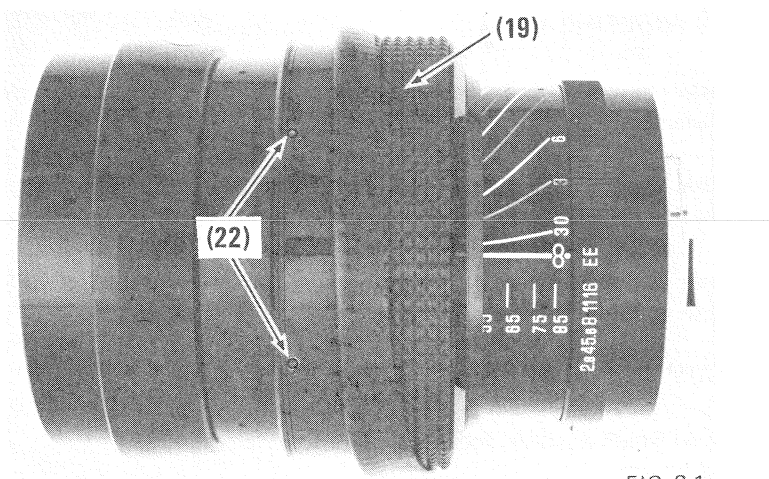

FIG. 8-1
- a) Roll grip (19) back to expose drag adjustment screws (22) (two on each side of lens). Fig. 8-1.